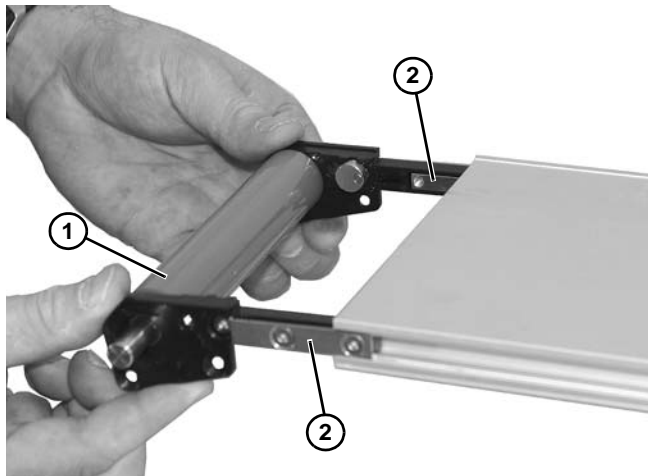

Figure 44
1. Assemble the drive spindle (**Figure 44, item 1**) onto each tail plate as shown and raise drive spindle assembly T-bars (**Figure 44, item 2**) to the conveyor frame.